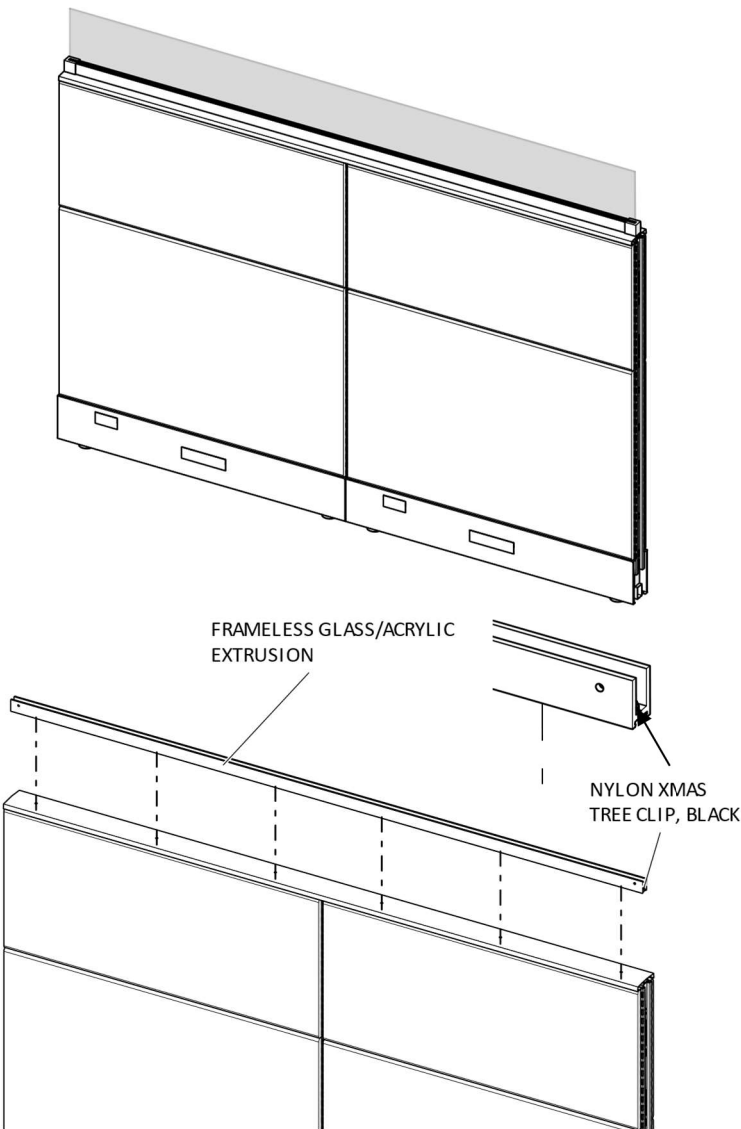

FIGURE 1
- 1. Check the panel top mounted glass /acrylic Frameless Glass/Acrylic Extrusion if there is a X-mas tree on both ends before placing it on top of the top trim, (Figure 1).